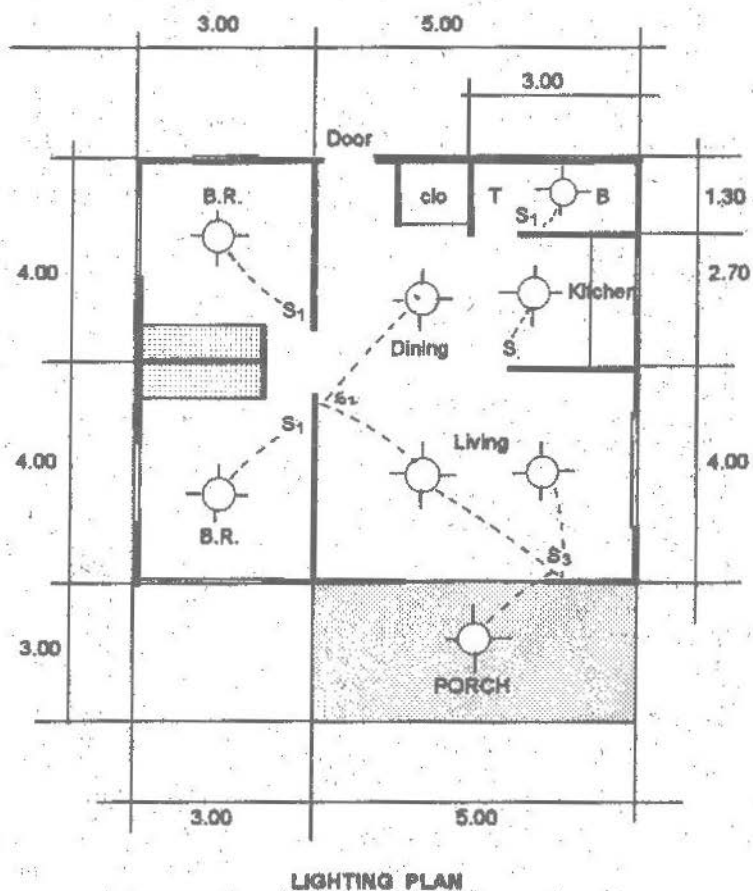

FIGURE 4-14 LIGHTING LAYOUT
A single family dwelling is to be circuited with the following requirements as shown on Figure 4-14. Determine the :
- From Figure 4-14, determine the number of lighting outlets. By direct counting, there are 8 light outlets.